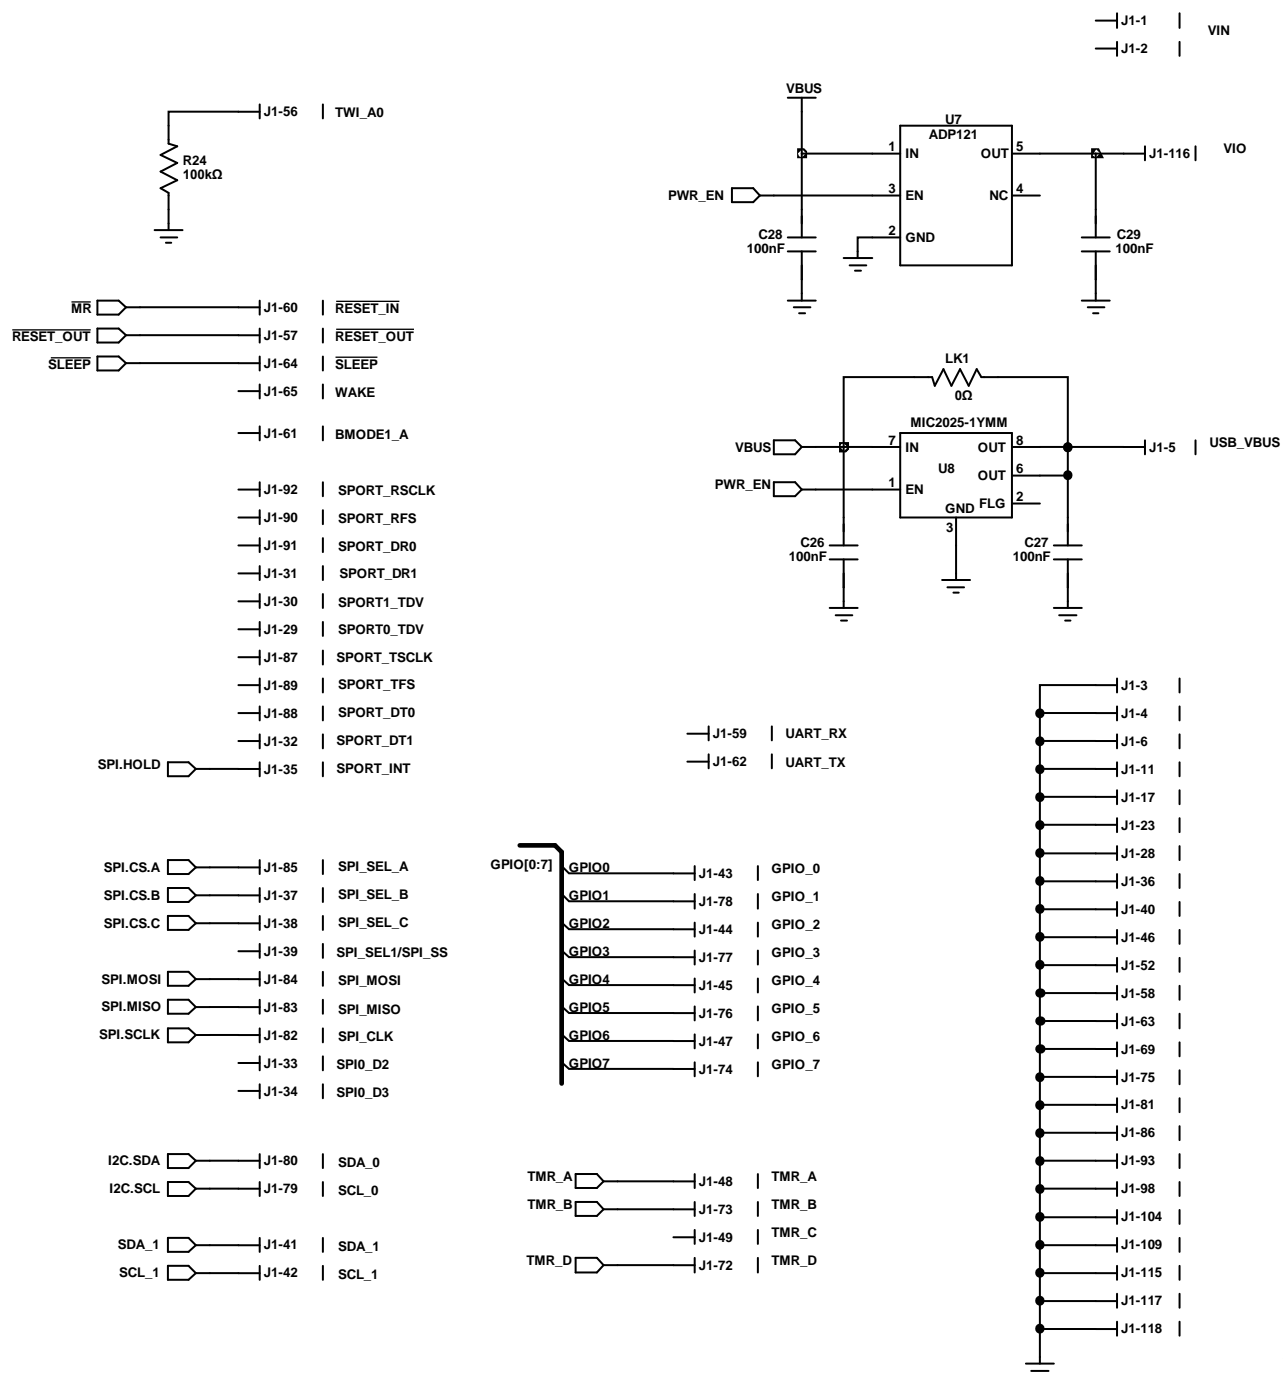

Figure 9. SDP-S—Connector
- SDP-S—Connector (see Figure 9)